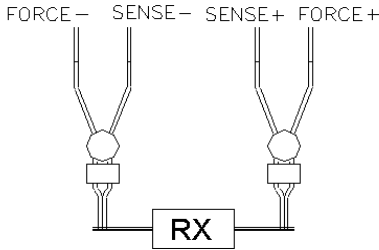

Fig. 3
- 4) Connect the 2 Kelvin clips as following Fig. 3 to measure the unknown resistance.